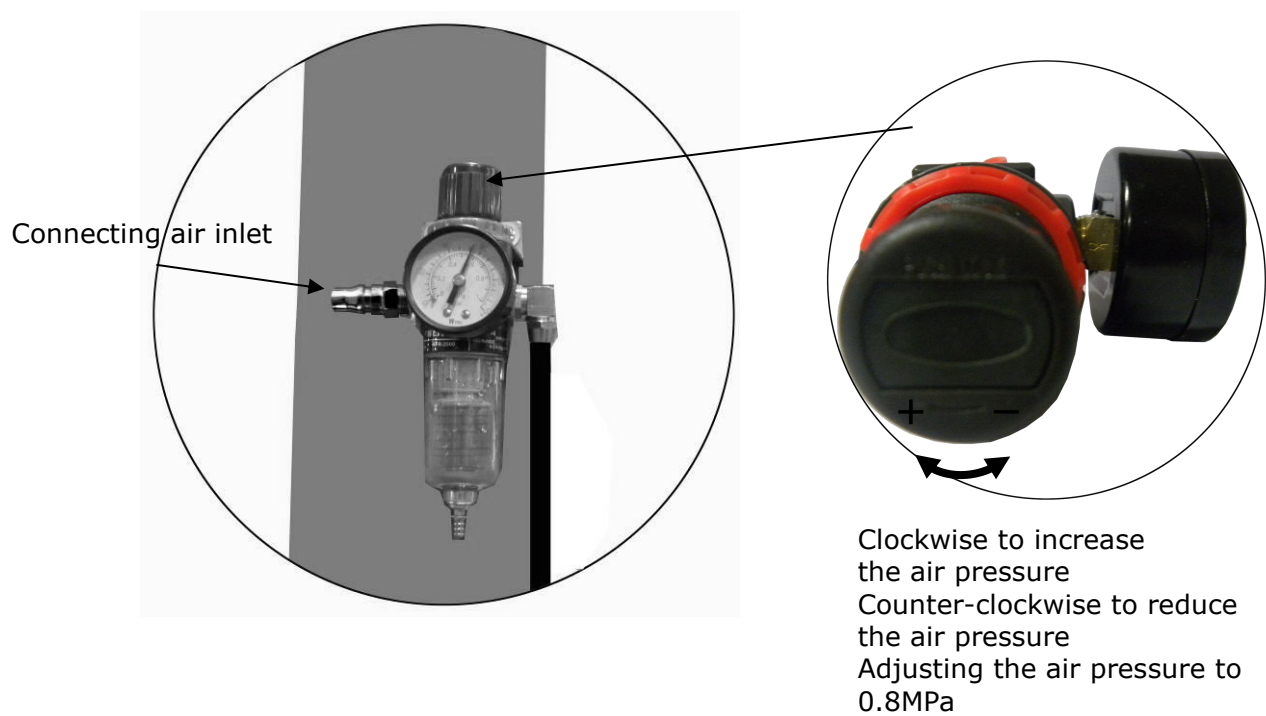

Fig. 32
6. Connecting air inlet (Air supply pressure 8kg/cm^2), adjusting the air pressure of Oil-water separator to 0.8MPa (**See Fig. 32**).